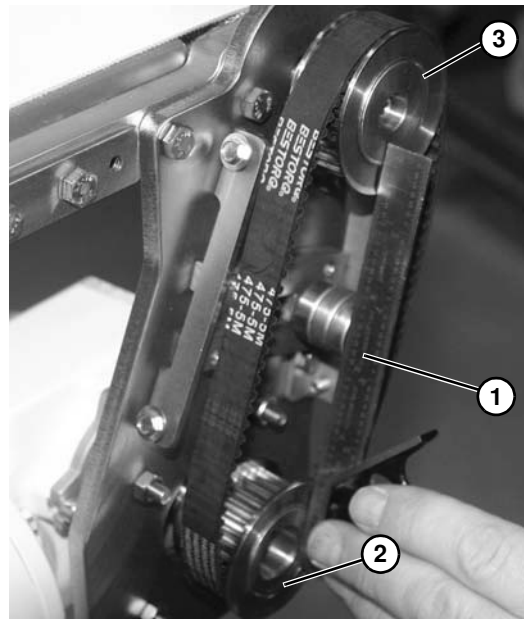

Figure 27
Using a straight edge (**Figure 27, item 1**), make sure drive sprocket (**Figure 27, item 2**) aligns with driven sprocket (**Figure 27, item 3**). Tighten drive and driven sprocket set screws.